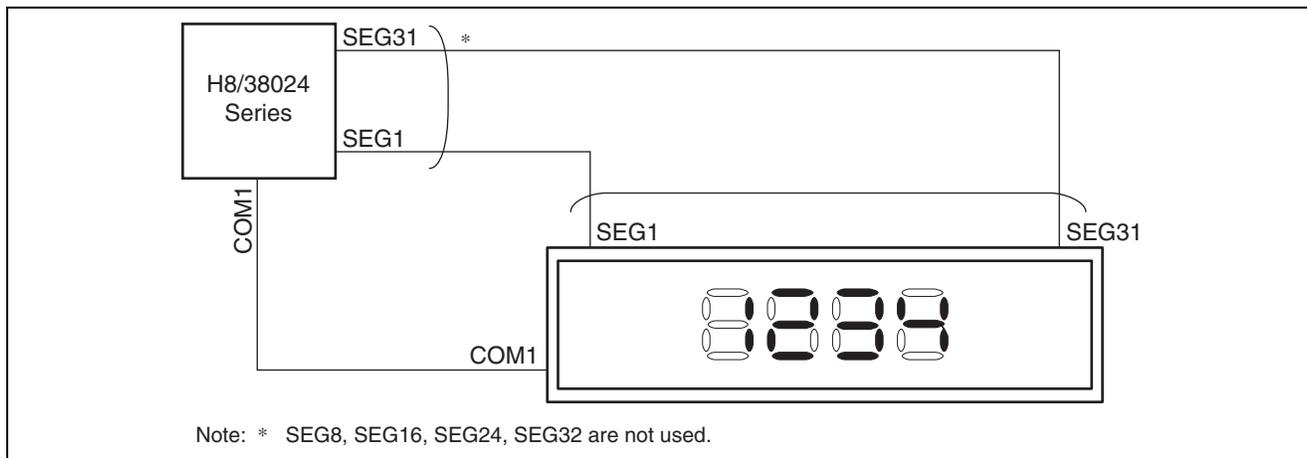

Figure 1.1 Example of LCD Display
3. An example of LCD module connection and LCD display for this sample task is shown in figure 1.1.